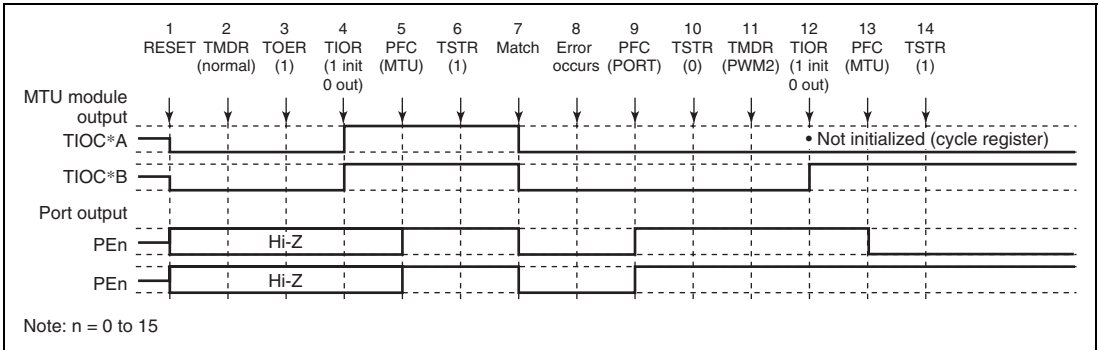

Figure 8.86 Error Occurrence in Normal Mode, Recovery in PWM Mode 2
(3) Operation when Error Occurs during Normal Mode Operation, and Operation is Restarted in PWM Mode 2: Figure 8.86 shows an explanatory diagram of the case where an error occurs in normal mode and operation is restarted in PWM mode 2 after re-setting.